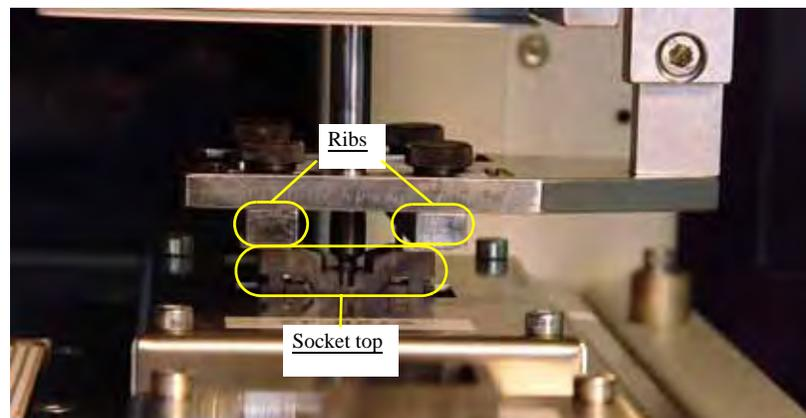

Figure 5-43—Socket actuator ribs contact socket top
- 3c) By hand, move the Socket Actuator down until the Socket Actuator ribs make contact with the socket top. See Figure 5-43.